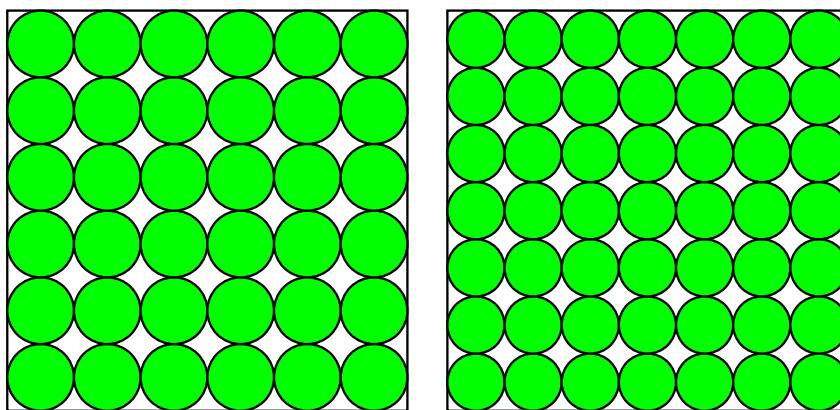

Figure 1: An optimal packing of 36 disks and a nonoptimal packing of 49 disks.
**Problem 1:** In Figure 1 we show arrangements of 36 (left) and 49 (right) nonoverlapping disks of equal radius packed inside a square. These packings have density  $d = \pi/4 \approx 0.785398$ . This is optimal for 36 disks because it has been proved that  $d_{36}^* = \pi/4$ . However, for 49 disks this is not optimal, that is,  $d_{49}^* > \pi/4$ . Your first problem is to find a better packing of 49 disks. Any solution with  $d \geq 0.79$  is accepted. Show it in a figure.